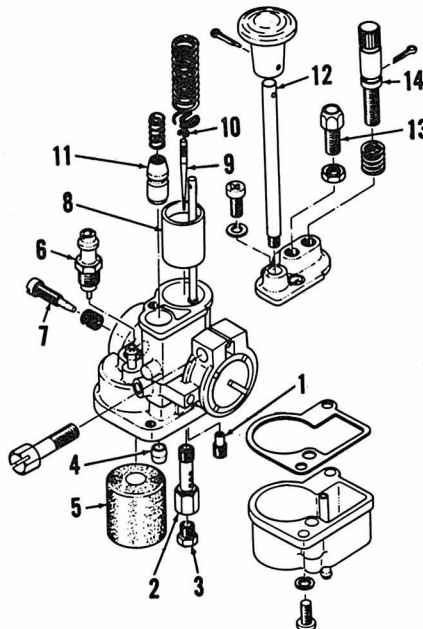

Fig. Y12-1 — Exploded view of sliding valve carburetor used on the JT-1.
**CARBURETOR.** A Mikuni Y 16 P sliding valve carburetor is used. Idle air screw (7—Fig. Y12-1) should be 1½ turns out from a lightly seated position. Float level is non adjustable. Refer to Fig. Y12-1 and the following standard specifications: